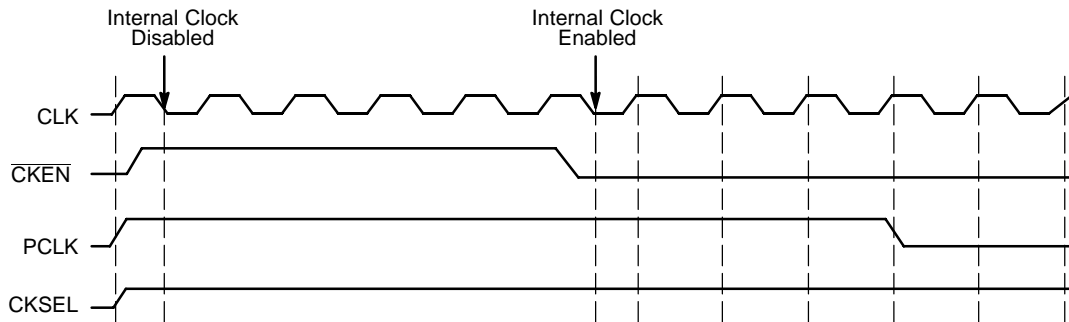

**Figure 10. Timing Diagram A. 1:8 Serial to Parallel Conversion with SYNC Pulse at CKSEL HIGH**
To allow the user to synchronize the output byte data correctly, the start bit for conversion can be moved using the SYNC input pin (pin 2). Asynchronously asserting the SYNC pin will force the internal clock to swallow a clock pulse, effectively shifting a bit from the  $Q_n$  to the  $Q_{n-1}$  output as shown in Figure 9 and Figure 10. For CKSEL LOW, a single pulse applied for two consecutive
triggering edge of clock② (on the rising edge of the clock only). Each additional shift requires an additional pulse to be applied to the SYNC pin. (See Figure 10)